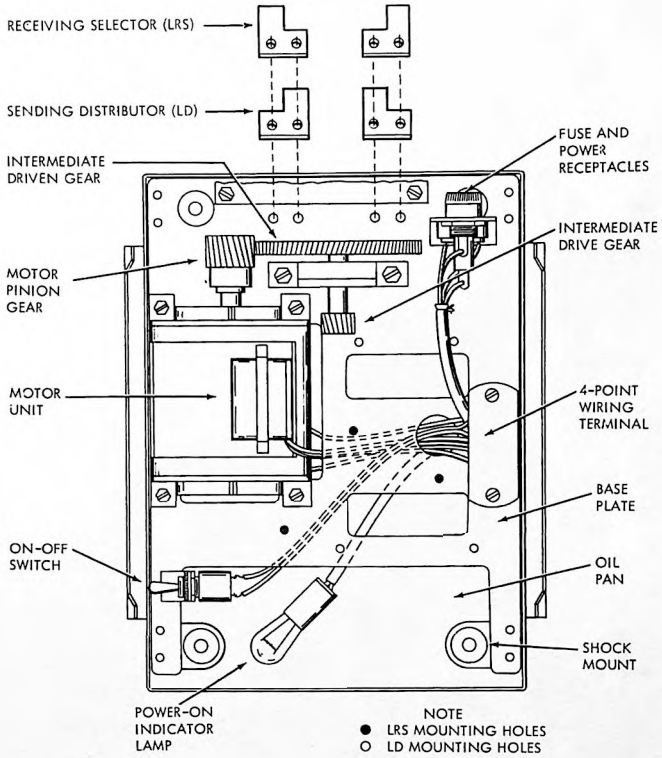

Figure 4. Cable Routing and Components Layout.
- 5.4.3 paragraph 3, for adjustments and clearance requirements between the motor pinion and intermediate driven gears. Route the power cable from the motor unit, under the base plate, and up through the hole immediately to the left of the 4 point terminal block (see Figure 4). Connect the leads to terminals 3 and 4 (see wiring diagram 4705WD shipped with the Base).